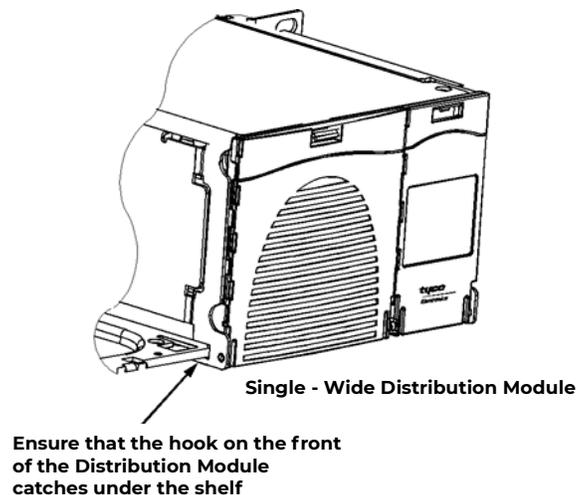

Figure 5-1: Distribution Module
7.	Verify the hook on the front engages under the shelf. See Figure 5-1.